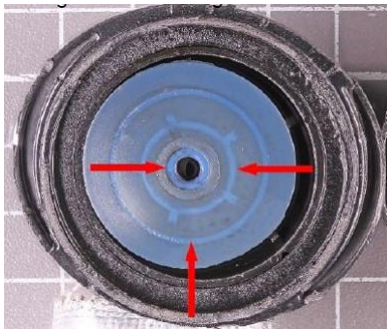

Figure 2
**Hint:** The diaphragm of 0P2 103 210G and 0P2 103 211H are blue (Figure 2)